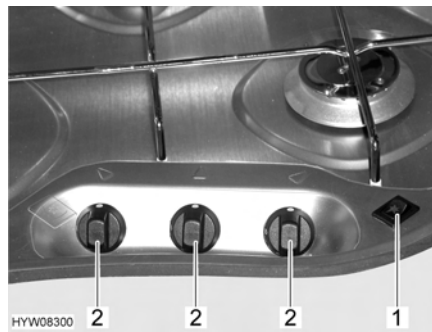

Fig. 83 Operating controls for gas cooker
- Turn the control knob (Fig. 83,2) on the burner you wish to use to the ignition position (large flame).
- Press the rocker switch (Fig. 83,1). Ignition sparks are generated at the burner.